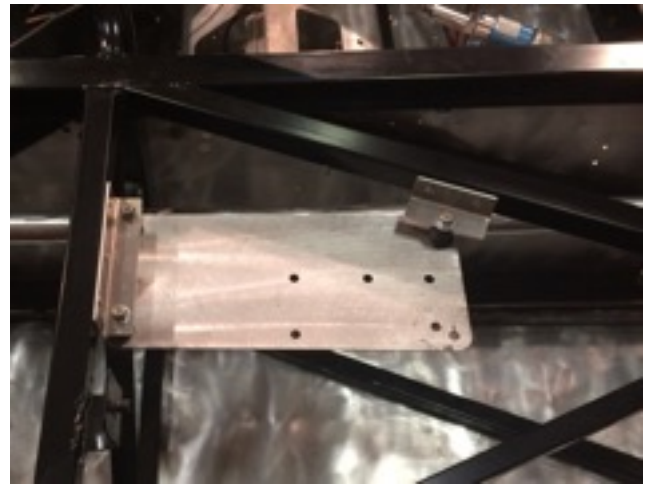

Figure 10 – ECU Mounting Plate Assembly
The new ECU (Engine Control Unit) mounts on drivers **LEFT** side of the chassis under the front edge of the side pod. (See Figure 10) It mounts using two (2) aluminum brackets (G392004 & G392003), three (3) $\frac{3}{4}$ " x $\frac{1}{4}$ -20 Rubber mounts (Part # G1010001), $\frac{1}{4}$ -20 nuts and washers (Part # 1000364 & 1020392), and (5) $\frac{1}{8}$ " pop rivets (Part # 1002068).
28. Fully assemble the ECU mounting plate using $\frac{1}{2}$ -20 rubber mounts, washers, and nuts. Tighten all hardware to about 5 ft-lbs. (See Figure 10)